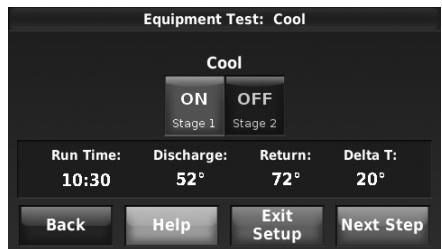

Fig. 17.
- For each stage you test, wait until Delta T begins to stabilize, then turn on the next stage (if present). See Fig. 17 for an example.
4. When setting the run time, select a setting based on when Delta T began to stabilize during the equipment test. In the example shown in Fig. 17 and 19, Delta T began to stabilize in about 10-11 minutes.